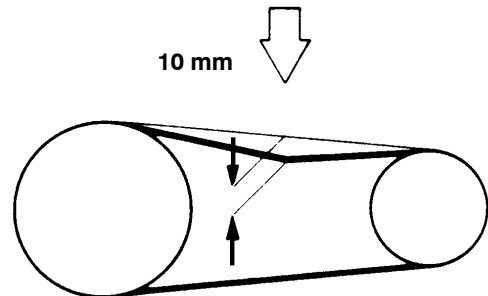

Fig. 40 Checking V-belt tension
- The best tension for a belt drive is the lowest possible, where the belt under full load does not slip. A rough value for this is when the belt deflects **10 mm** when pressed with thumb pressure between the two pulleys (Fig. 40). For best results we recommend our v-belt tension meter, part no. N25238.
- Adjust motor until the belt tension is correct (see Fig. 40).